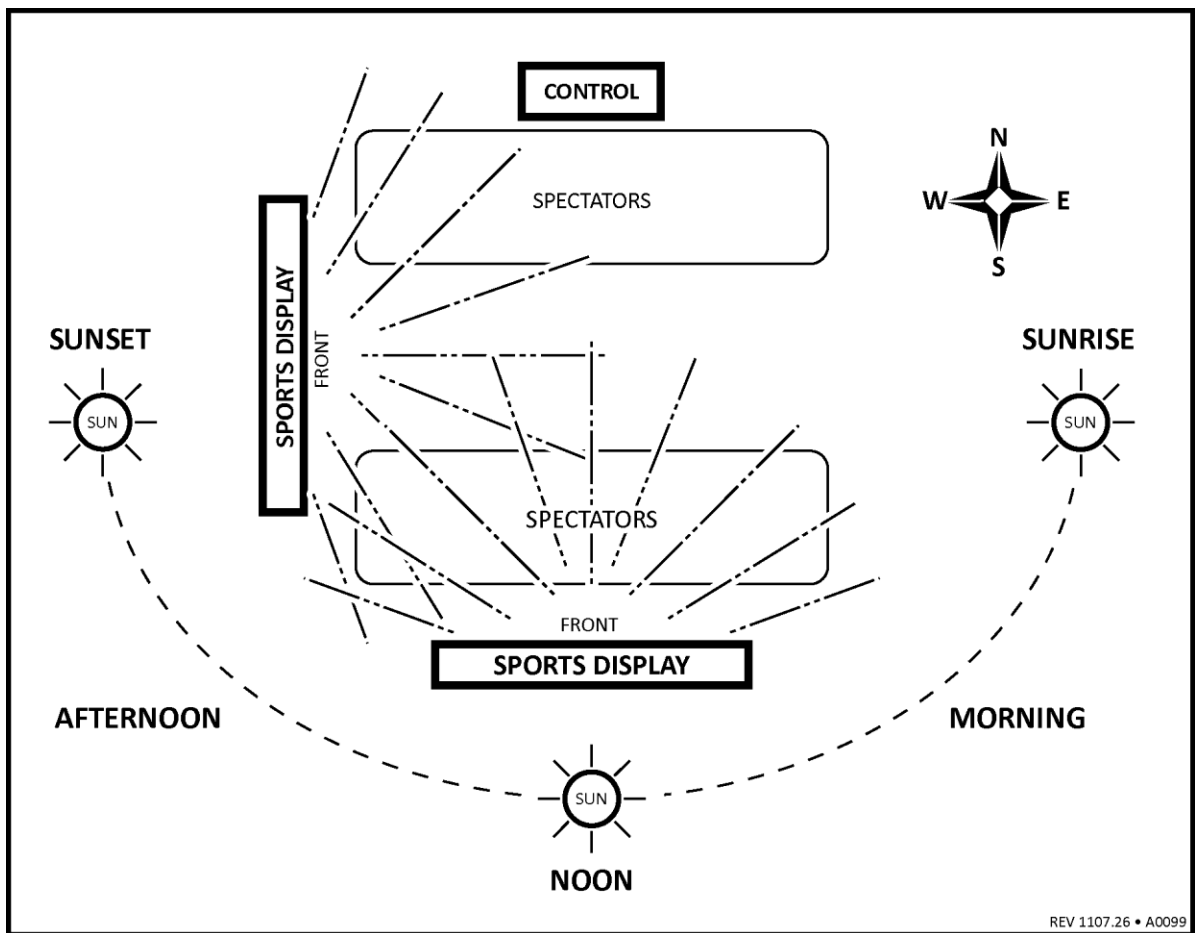

FIGURE 1 — SPORTS DISPLAY AND CONTROL PLACEMENT
- For maximum visibility, the sports display must be placed at the south or west end of the field so that the sun does not shine directly on the face of the sports display during afternoon games. See Figure 1 below.